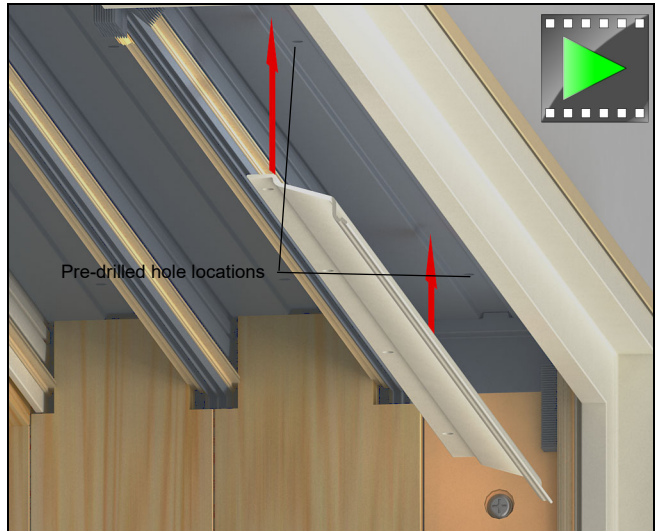

Figure 49
8. Remove tape from head jamb structural clip in head jamb and fasten using #8 x 3" black installation screws through all the pre-drilled holes. See figure 49.